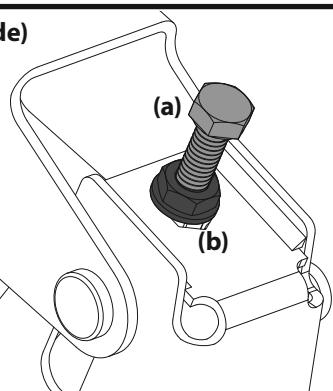

Figure 39
- Locate the adjustment bolts (a) on the left and right side of the deck. See Figure 39.
- Loosen, but do not remove, the jam nuts (b) on the adjustment bolt. Adjust either the right or left adjustment bolt up or down as necessary until the side-to-side heights are equal. See Figure 39.